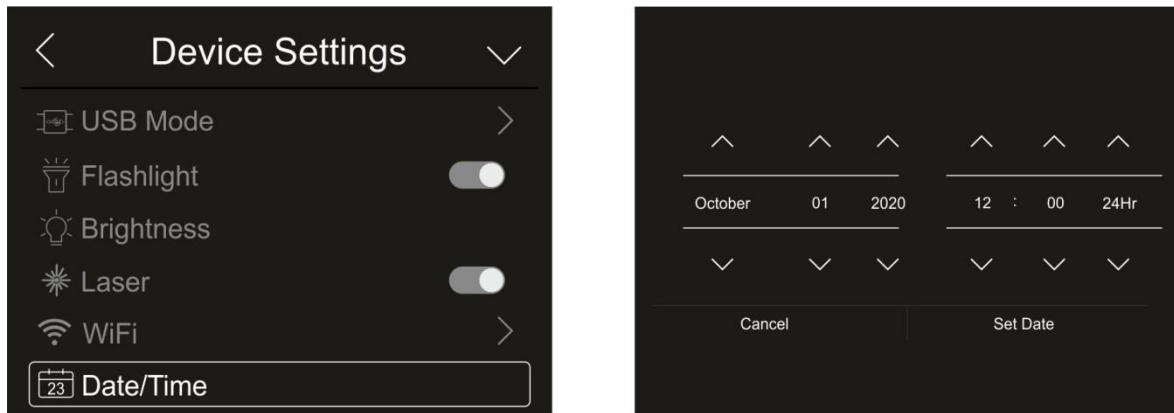

Fig. 19: System date/time setting
1. Touch the item “Date/Time” to set the system's Date/Time. The screen in Fig. 19 – right side appears on the display: